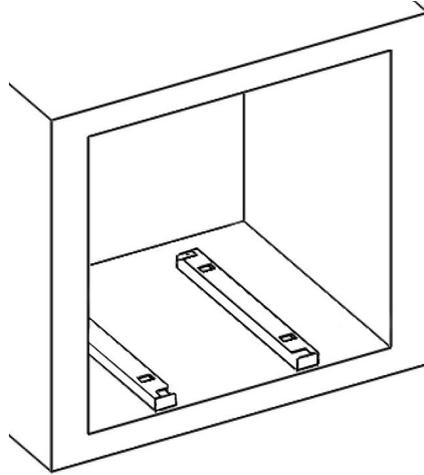

Figure 1
1. Lay the support beams flat on the bottom of the cabinet cutout with the open sides facing each other (see Figure 1).